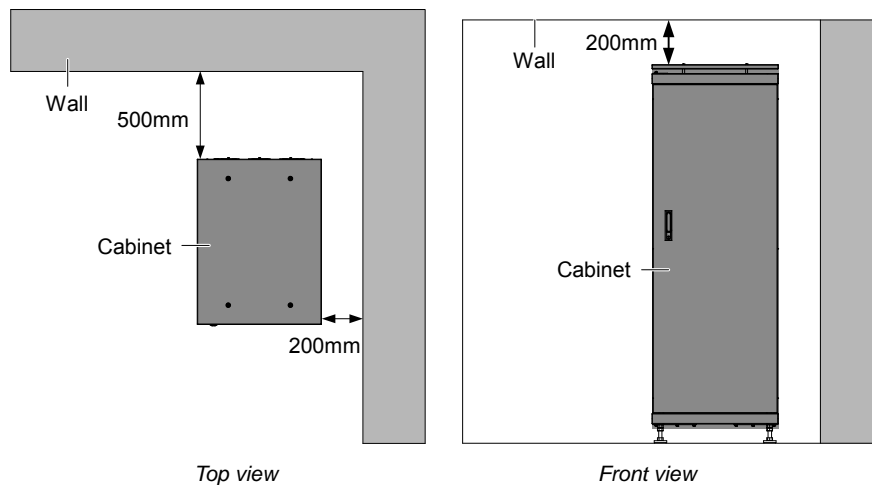

Figure 2-1 Cabinet installation clearances
The internal fans provide forced air cooling for the UPS. Cooling air enters the UPS through the ventilation holes on the rear panel, and exhausts the hot air through the front ventilation holes. Therefore, do not obstruct the ventilation holes. Maintain at least 200mm clearances between the front, rear, top, bottom, side panels of the UPS and the wall or adjacent equipment (see Figure 2-1), to avoid obstructing the UPS ventilation and heat dissipation. Otherwise, the UPS internal temperature will rise, which will shorten the UPS life.
2. As shown in Figure 2-1 (top view), the demonstration of the clearance between the rear panel of the cabinet and the wall is 500mm. The clearance should not be less than 200mm, it needs to be considered according to the actual situation for the sake of maintenance convenience.